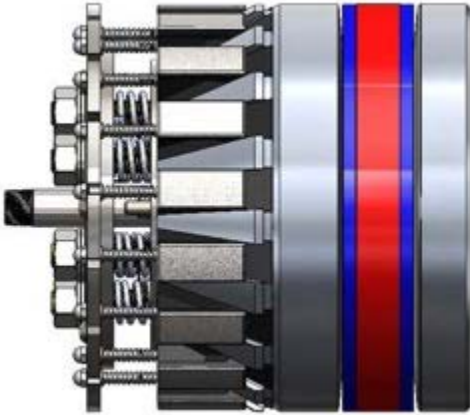
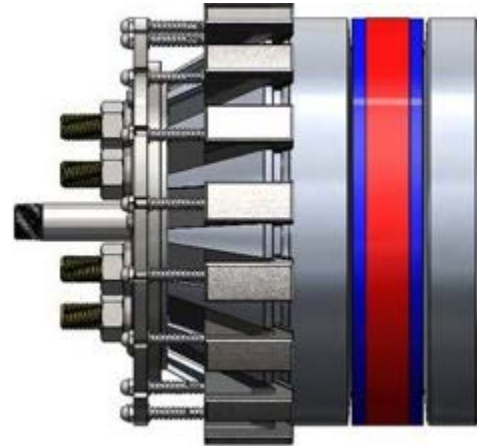

Figure 3: Not Ready to Install (Retracted)
Figure 4: Ready to Install (Compressed)
- The GripSafe ST Outboard Retraction Blocking NPS 4” to 12”, 14” SCH 60-160, and 16” SCH 120-160 plugs should be in the “Ready to Install” position from the factory, see Figure 4.
- Ensure that the Compression Hex Nuts (19) are tightened until the **Spring Plate Hub (18)** is in a compressed state, as shown in Figure 4, and flush with the **Retainer Plate (16)**.
- Do not over-tighten or torque the nuts to the point where the **Seal (8)** begins to swell or extrude beyond the plug’s outer diameter, as this may hinder or prevent proper insertion into the pipe. If you need assistance with centering the plug in horizontal installations, refer to Note 6.7.
- In the compressed state shown in Figure 4, the GripSafe ST plug will immediately grip the pipe upon insertion.
- 6.5 If insertion into the pipe is difficult while in the compressed state shown in Figure 4, it may be beneficial to insert the plug in the retracted state, as illustrated in Figure 3. To do this, loosen all **Compression Hex Nuts (19)** to the top of their respective **Compression Shafts (6)**. Take care not to completely remove the **Compression Hex Nuts (19)** from the assembly. In this orientation, the **Wedge Grippers (4)** will be fully retracted, allowing the plug to be inserted freely into the pipe.